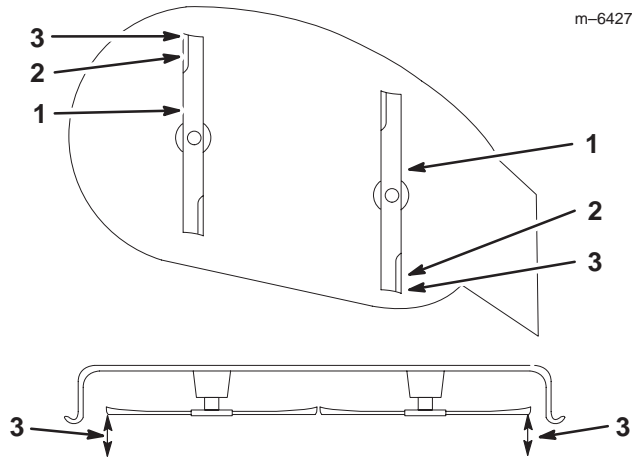

Figure 44
8. Set the height-of-cut at position **D** [3 inch (76 mm)] and carefully rotate the blades so they are facing front to rear (Fig. 44).
9. Measure from the tip of the front blade to the flat surface and the tip of the rear blade to the flat surface (Fig. 44). If the front blade tip is not 1/16–5/16 inch (1.6–7.9 mm) lower than the rear blade tip, adjust the front locknuts.